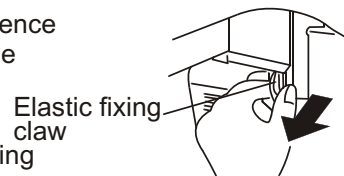

Figure 3
After cleaning, insert the bottom of the lint filter (marked with "down side") into the overflow filter, then push the upper part of the filter in (marked with "up side"). (See Figure 3)
- Embed the drain hose into the groove along the side of the spin tub in the order of (1)~(3), heading for the side of the spin tub. (See to Figure 3).